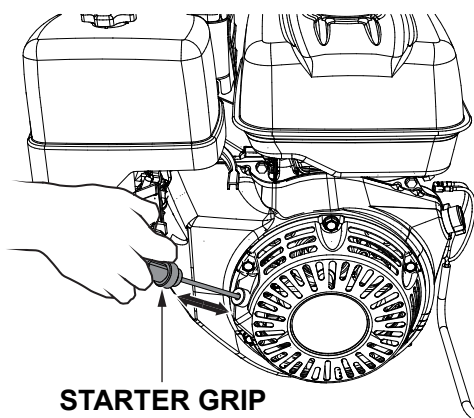

Figure 25. Starter Grip
6. Slowly pull the starter grip (Figure 25) until resistance is felt, then pull briskly and smoothly to start the engine. Gently return the starter grip to its original position.